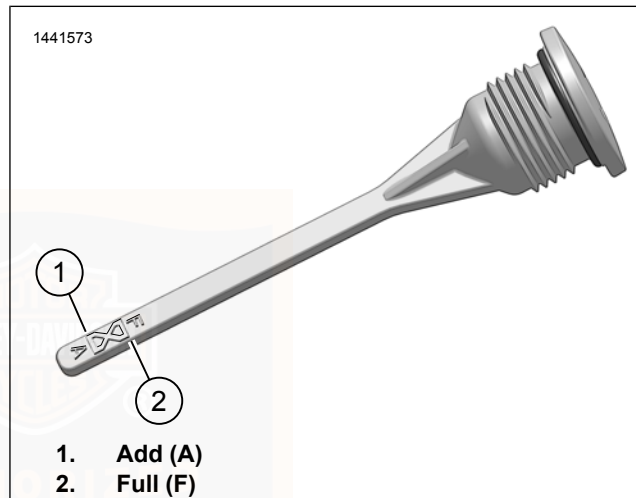

Figure 56. Transmission Lubricant Level
5. See Figure 56. Remove filler plug/dipstick. Check lubricant level on dipstick. Proper oil level is between the Add (A) (1) and Full (F) (2) marks.
6. Check lubricant level. Add enough lubricant to bring the level between the add (A) and full (F) marks. See Figure 56.